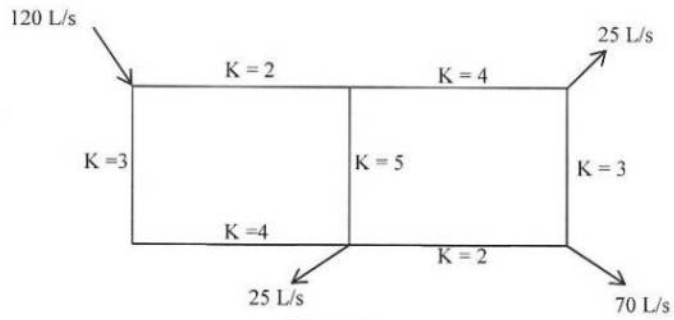

Figure 9
- (c) Explain Reynolds experiment in brief to distinguish between laminar and turbulent flow with a sketch. (6)
8. (a) If the flows into and out of a two-loop pipe system are as shown in Figure 9, determine the flow in each pipe. The k -values for each pipe are given in the figure. Use Hardy Cross method. (10)